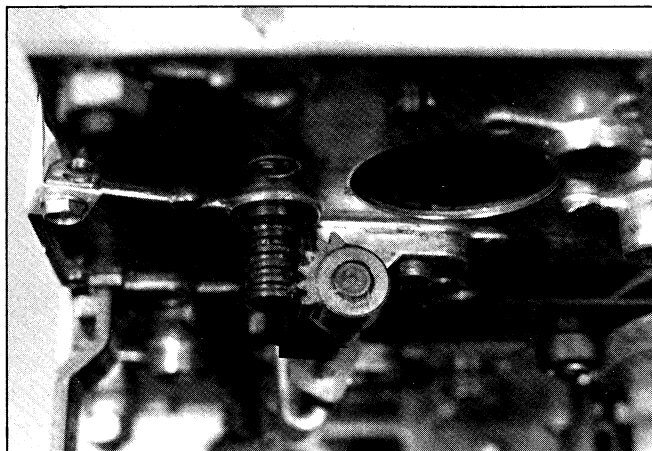
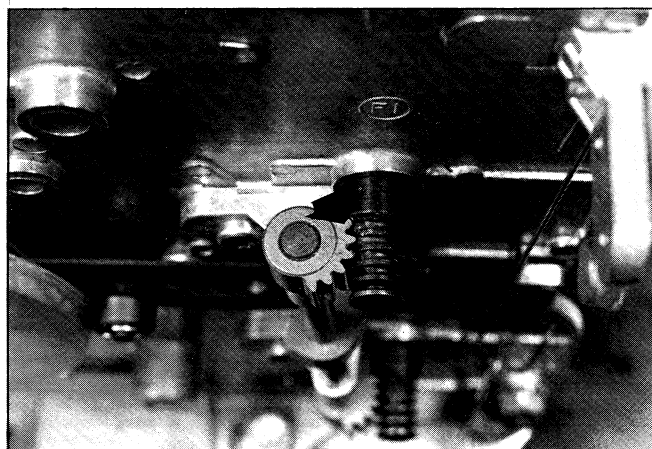
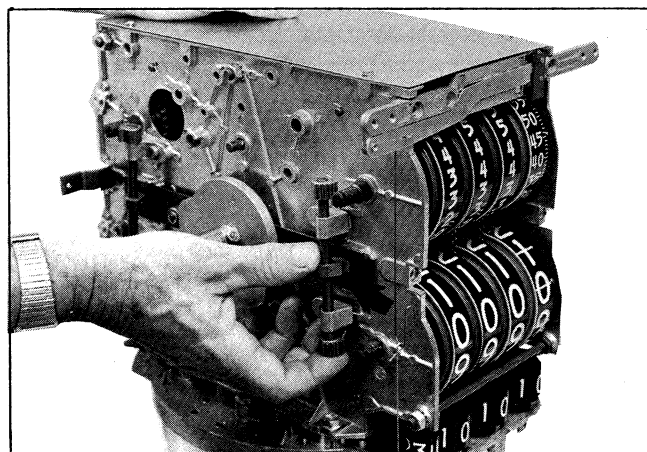

Figure 36. Segment gear outer tooth overlapping end of rear wheel shafts.
Figure 37. Segment gear inner tooth meshing with inner most groove in front wheel shafts.
Figure 38. Engaging rocker shaft group lever into slot and bar.
- h. Assemble rocker shaft group into place so the outer tooth on the segment overlaps the end of the **rear wheel shaft**, Figure 36, or the inner tooth of the segment gear enters the innermost groove in the **front wheel shaft**, Figure 37. It is best to engage rocker shaft group lever into slot and bar before aligning teeth, Figure 38.